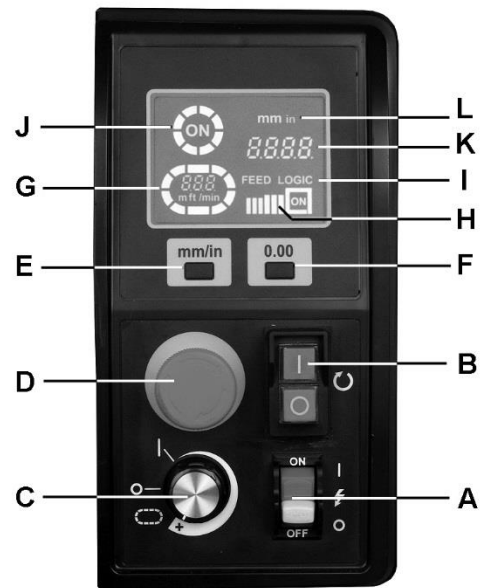

Figure 16
Figure 16 shows control panel functions.
Lower drum until it just contacts workpiece, then push zero depth reset button (F, Figure 16) to zero the setting of drum height from workpiece. The handwheel is then used to lower the drum in exact increments for each pass, by viewing the depth on the control display (K).
Press E-stop button (D, Figure 16) to shut down all machine operations. When E-stop is pressed, drum motor stops and "ON" (J) goes dark on display. Conveyor motor also stops, and racetrack (G) flashes.
**IMPORTANT:** The E-stop remains engaged until it is rotated clockwise for release. Also, the conveyor speed dial (C, Figure 16) must be returned to OFF position before restarting machine.
The Feed Logic control continuously monitors the load on the drum motor, and automatically regulates the speed of the conveyor motor to maintain highest feed rate without overload. When "Feed Logic" flashes and "ON" illuminates on the display (I, Figure 16), the Feed Logic control has detected too great a depth of cut and/or too fast a feed rate.